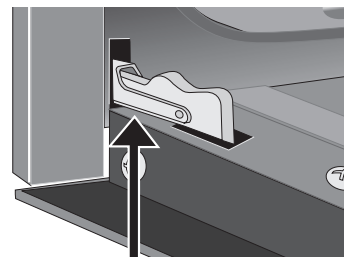
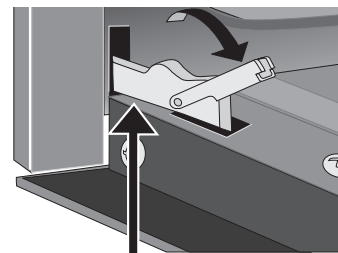

Figure 37: Door hinge locked
Figure 38: Unlocking door hinge
2. Pull up the lock located on each hinge support toward front of the oven until the lock stops. You may have to apply a little upward pressure on the lock to pull it up (Figure 37 and Figure 38).
4. Push the door hinge locks up toward and into the oven frame on both left and right oven door hinges to the locked position (Figure 37).